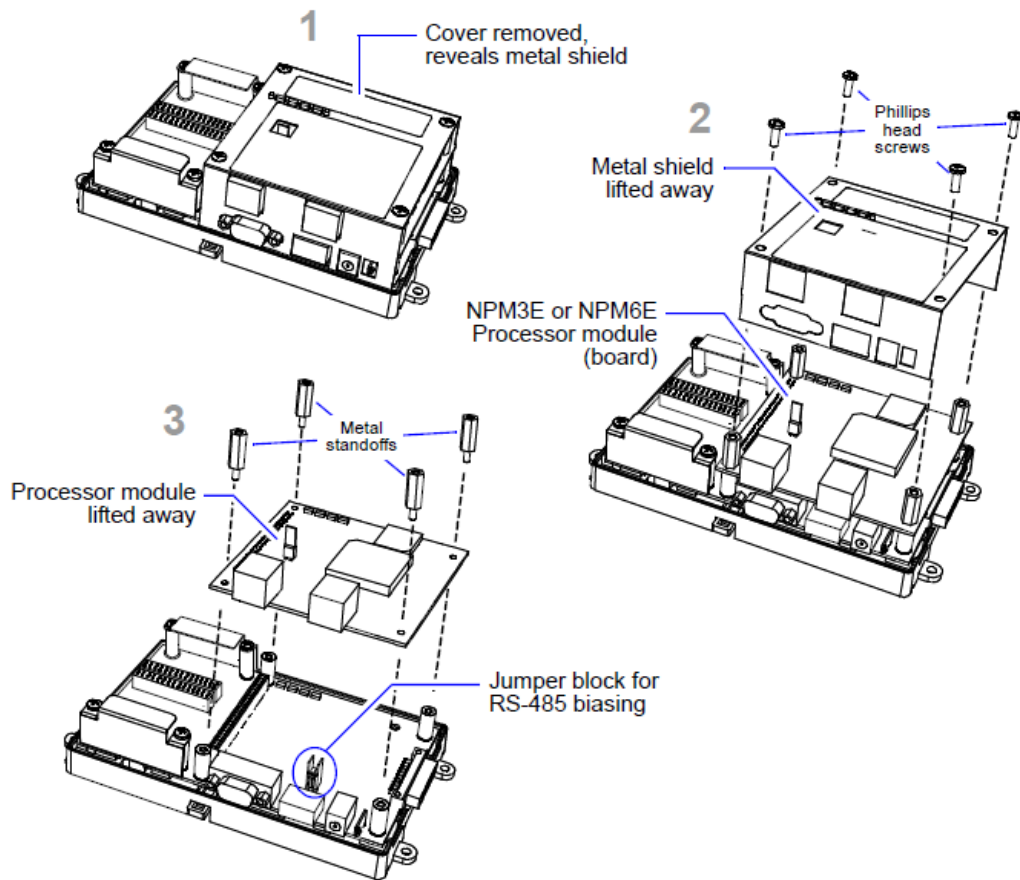

Figure 11: Basic Stages of Controller Disassembly
Three models of wall power modules are available: United States (U.S.), European Union (EU), and United Kingdom (U.K.). All are self-contained, isolated switching power supplies designed to plug into a standard building power receptacle for appropriate voltage. To supply power to the FX30E/FX60E, you simply plug the barrel connector plug from the power module into the barrel power connector on the FX30E/FX60E base unit (Figure 11).
Set the processor module board aside. Note the jumper block on the base board behind the RS-485 port (Figure 11).